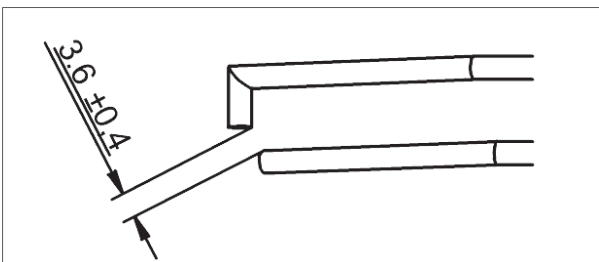

Figure 24- Distance between the two electrodes
- b. The distance between the two electrodes should be (\pm) mm (figure 24).